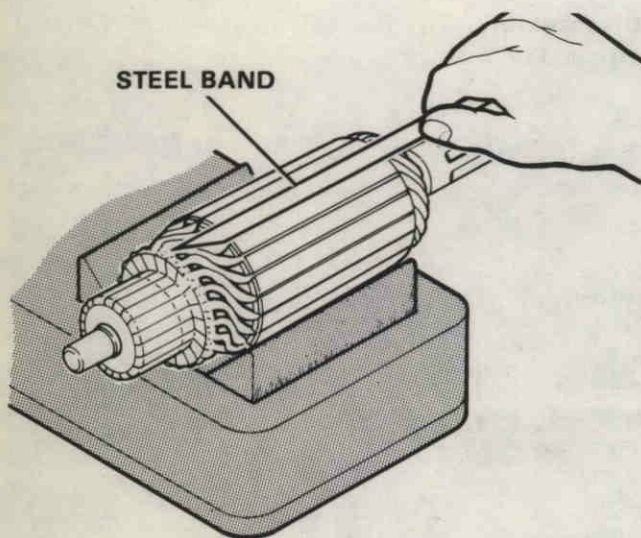

Figure 51. Testing Armature for Short.
- B. Hold a steel band parallel with and touching armature core. Turn armature slowly in growler jaws. If steel blade vibrates at any area of the core, area is shorted and armature must be replaced. Figure 51.